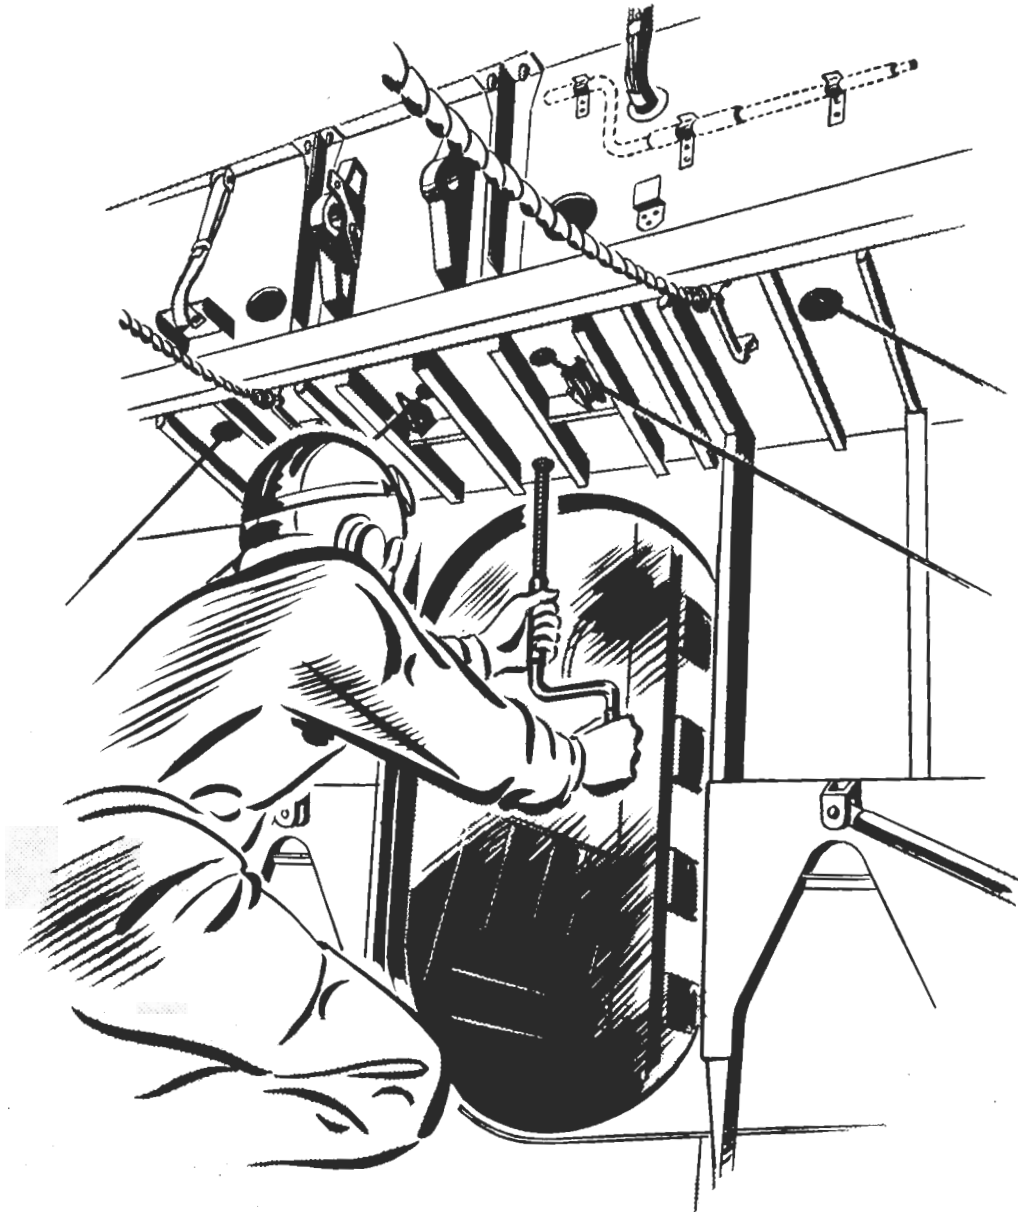

Figure 14 — Wing Flaps Operation, Emergency
2. EMERGENCY OPERATION, WING FLAPS. (See figure 14.)—Provision is made for mechanical lowering of wing flaps in the event of complete failure of the hydraulic system. A hand crank, stowed in the forward bomb bay, is inserted in a hole just above the opening between the bomb bays. (See figure 14.) Counterclockwise rotation of the crank lowers the wing flaps. The flaps are locked in position by the crank, which cannot be removed until the flaps